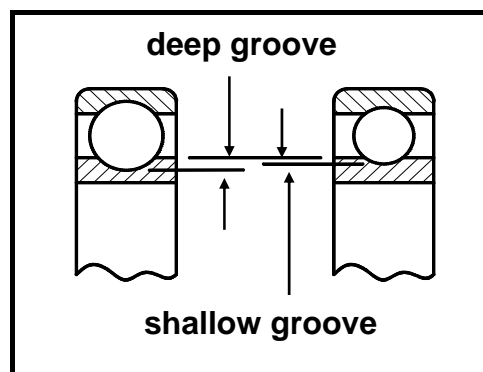

FIGURE 1.4
- D A ratio of the deformation by application of an external force (1)
1.14 What is the function of the deep groove ball bearing shown in FIGURE 1.4?